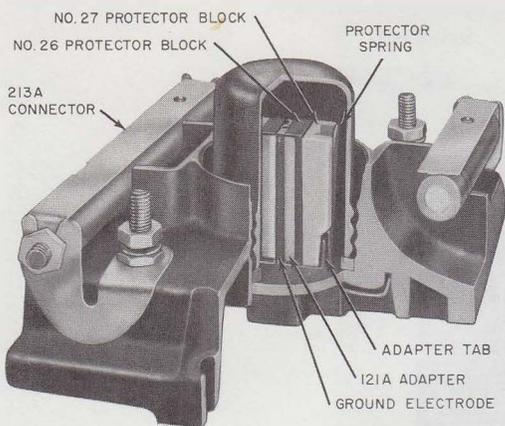

Fig. 97—Converted 98A(MD) Protector
- (5) Remove adapters from protector well and assemble each adapter with a No. 26 and a No. 27 protector block.
- (6) Install assemblies in protector well. Check for grounds; line terminals should not be grounded.
- (7) Where requirements of (4) and (6) are not met, discard adapters and replace with other adapters. If requirements cannot be met on the second attempt, do not try to convert the protector; install a 123- or 128-type protector instead. Do not attempt to bend or adjust the adapter tabs or protector block springs.
- (8) Reinstall cap.
- (9) Connect line wires using care not to reverse tip and ring.
- (10) Loosen nuts on 11C fuses.
- (11) Insert 213A connectors over each fuse with end inside fuse clips. In cases where fuses have shrunk slightly, one or both connector ends may be placed outside of fuse clips. Some bowing of the connectors is not considered objectionable.
- (12) Tighten nuts on fuses (see Fig. 97).